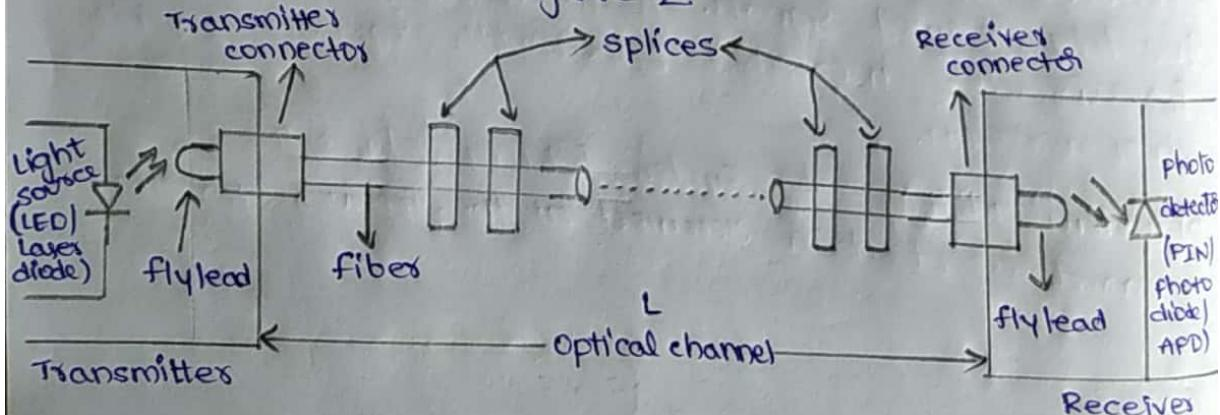

Figure 2
- An optical power loss model for a point to point link is shown in figure 2